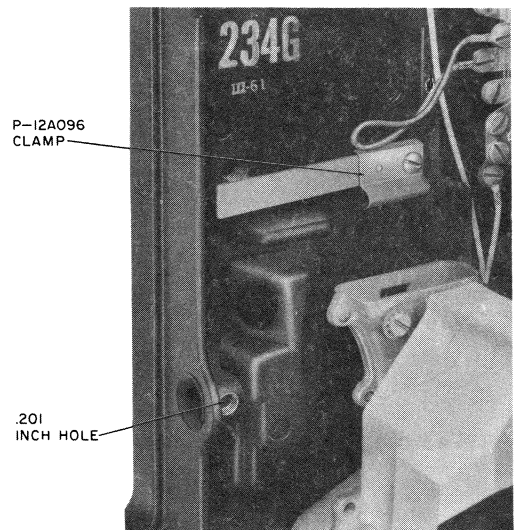

Fig. 16—Location of .201 Inch Hole
- (3) Using a small center punch and hammer, mark hole to be drilled and tapped in the coin collector backplate. This hole is to be located in the cord entrance tube halfway between the outer beveled edge of the coin collector and the left edge of the cord chamber (Fig. 16).
- (4) Drill hole with a No. 7 drill (.201 inch).